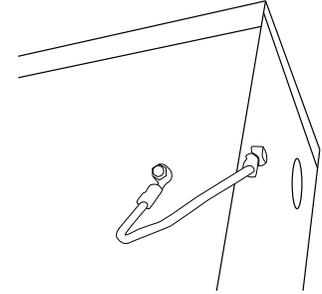

Figure 10: Ground Strap
1. Using the included lock washer and nyloc nut, connect one end of the ground strap to the enclosure. See Figure 10 for location.